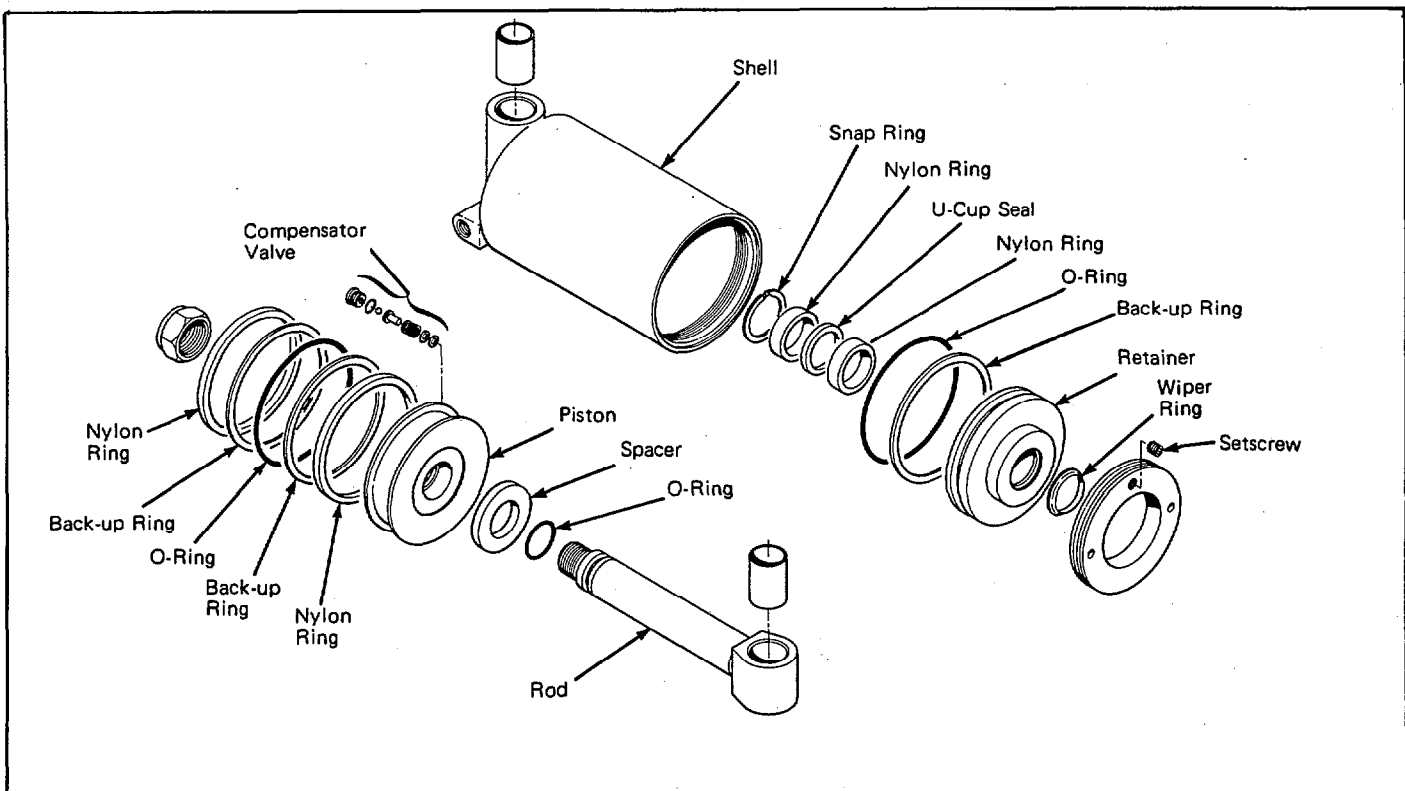

Figure 5. Push/Pull Cylinder-Two Piece Retainer
Push/Pull Cylinder (See Figure 5 and 6)
- Use a socket wrench to loosen the setscrew (found only on older cylinder) from the threaded washer. See Figure 5.